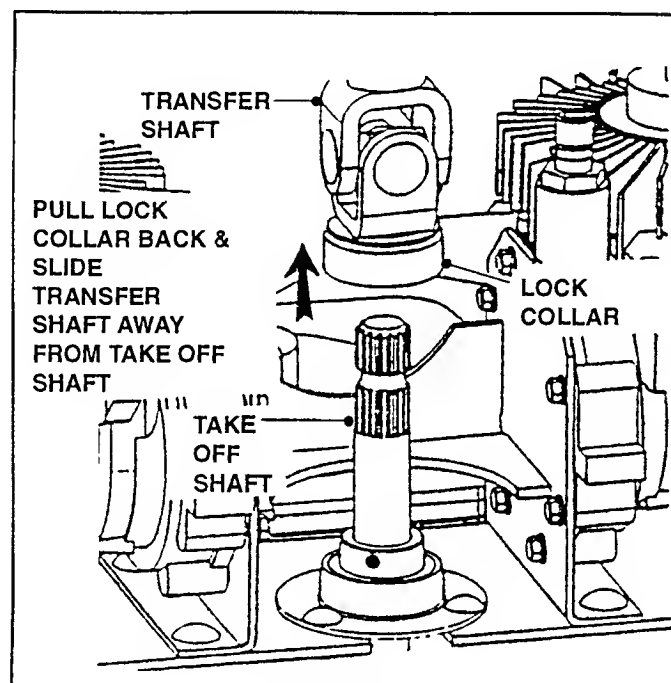

FIGURE 8.15
G. Pull Lock Collar back and slide Power Transfer Shaft away from Power Take Off Shaft (located on Power Unit below Hydro Pumps). See Figure 8.15.